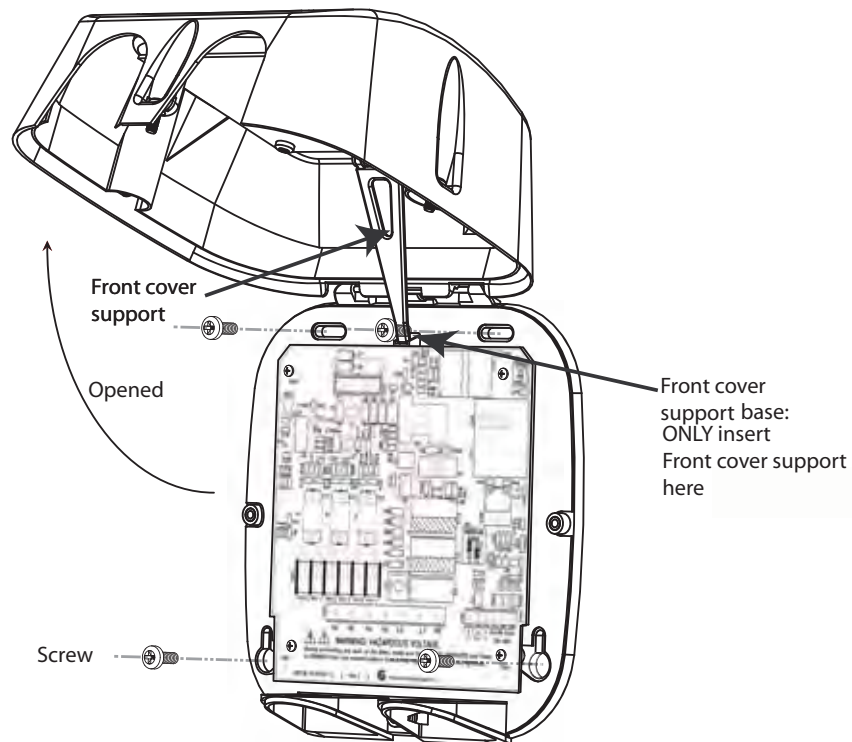

Figure 3.1: Submeter with Cover Open
2. With the submeter power off, open the top of the submeter. Use the front cover support to keep the cover open as you perform the installation (see Figure 3.1).